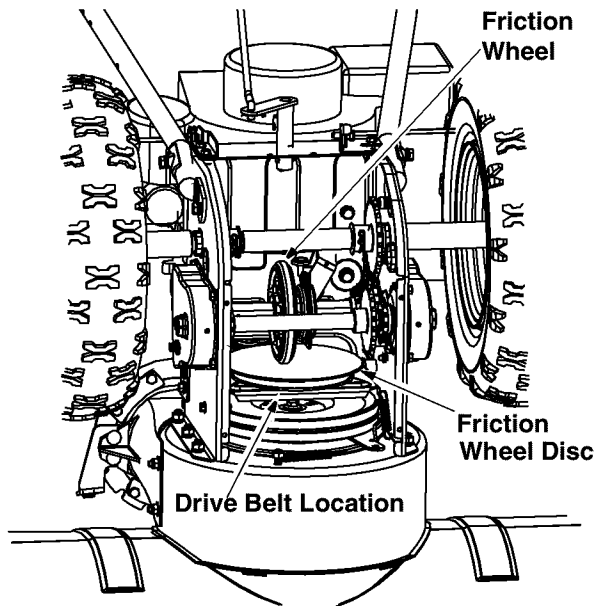

Figure 25
- Working from the underside of the frame, slip belt between the friction wheel and the friction wheel disc. See Figure 25. You may have to twist the belt flat in order to slide it through the clearance between the friction wheel and the friction wheel disc. Remove the belt.
- With the traction drive clutch engaged, the friction wheel must contact the drive plate (shown in Figure 25).